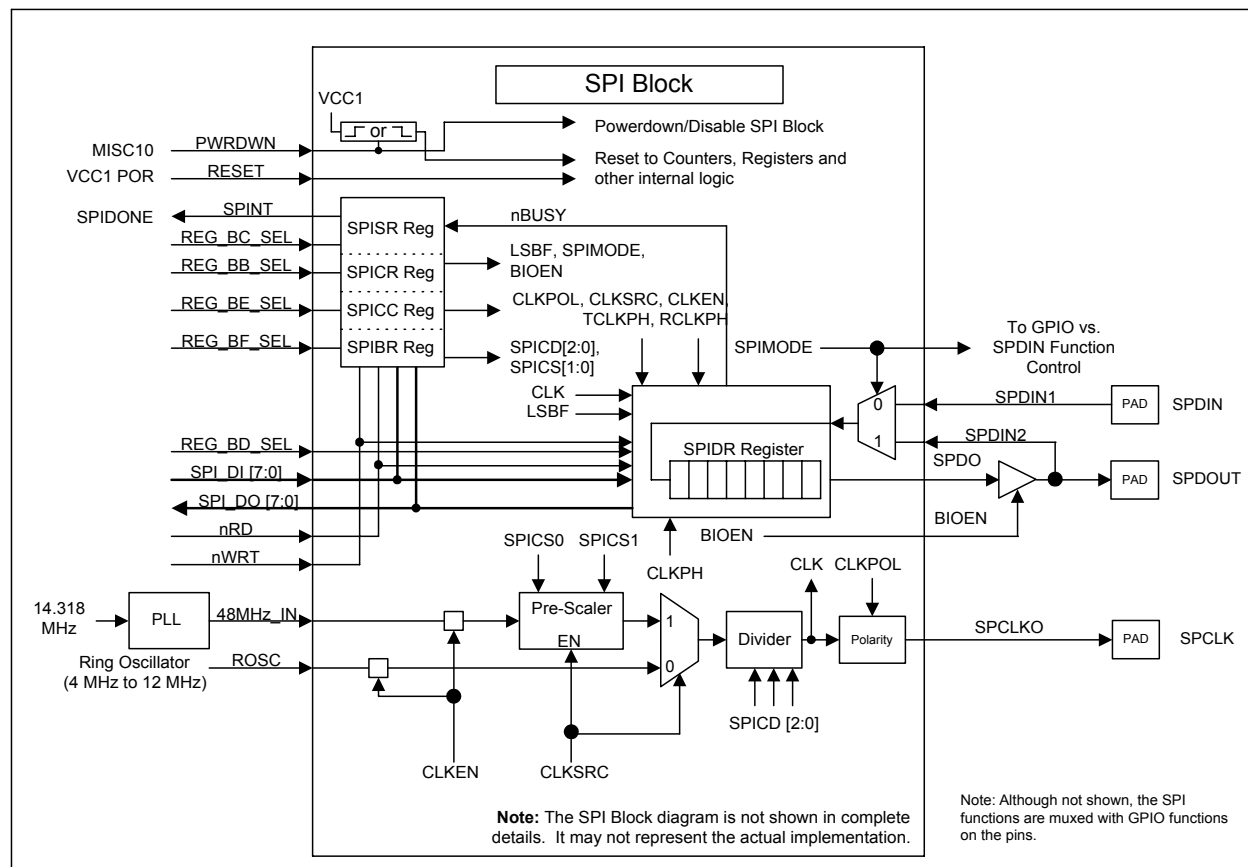

Figure 16.1 SPI Block Diagram
Figure 16.1 shows the SPI block diagram. See Section 16.3, "Interface Description," on page 176, Section 16.4, "SGPIO vs. SPI Function Control," on page 177, Section 16.7, "SPI Registers," on page 179, and Section 16.8, "SPIDONE - 8051 Interrupt," on page 185 for description on SPI block signals, SPI pins and registers.
- The LPC47N350 SPI can be configured to operate in two modes: Full Duplex and Bidirectional (see Figure 16.1 on page 175). See Section 16.5.1, "Full Duplex Mode" and Section 16.5.2, "Bidirectional Mode" for detailed descriptions of each operating mode.
- In Full Duplex Mode, serial data is transmitted and received simultaneously by the SPI master over two separate data transmission lines as shown in Figure 16.1 on page 175. See Section 16.7.1.2, "D1 - SPIMODE - SPI Mode," on page 180 for SPI mode configuration.
- Input and output serial data share the SDOOUT pin, as shown in Figure 16.1 on page 175 using the BIOEN bit (See Section 16.7.1.3, "D2 - BIOEN - Bidirectional Mode Output Enable," on page 180).
- The LPC47N350 SPI can be configured to run from the Ring Oscillator or a PLL source (See Section 16.7.4.3, "D2 - CLKSRC - SPI Clock Source," on page 183 and Section 16.7.4.4, "D3 - CLKEN - Clock Enable," on page 183). The PLL uses the 14.318 MHz input clock and is active under VCC2 power only. The Ring Oscillator frequency range is from 4MHz to 12 MHz. See Figure 16.1.
When the SPI is configured for Bidirectional Mode (see Section 16.7.1.2, "D1 - SPIMODE - SPI Mode"), the BIOEN bit controls access to SDOOUT. When BIOEN is deasserted '0', the SDOOUT signal is configured as the serial data input. When BIOEN is asserted '1', the SDOOUT signal is configured as the serial data output. See Figure 16.1 for details.